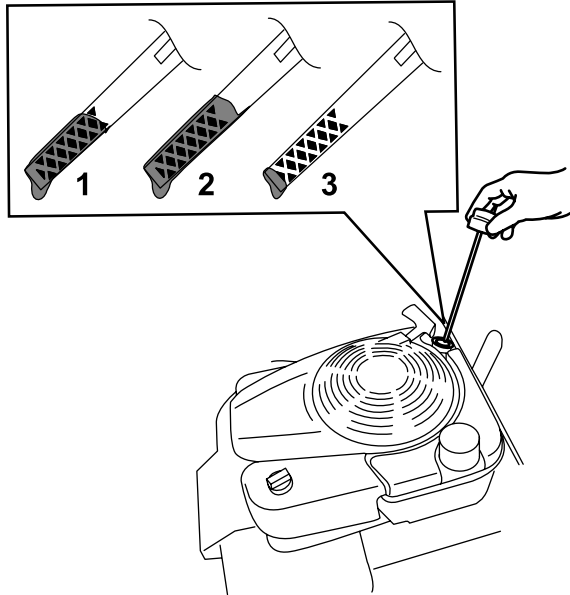

Figure 12
2. Remove the dipstick by rotating the cap counterclockwise and pulling it out (Figure 12).
5. Read the oil level on the dipstick (Figure 12).